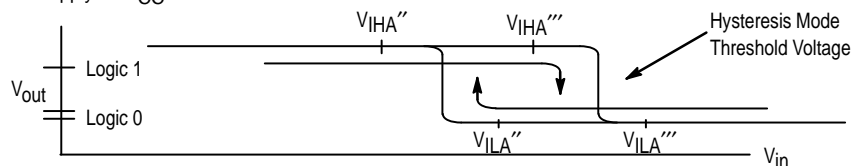

Figure 1. Hysteresis Mode Threshold Voltage
2. Output latched to logic high state prior to test. V_{IHA}' , V_{ILA}' are standard logic 1 and logic 0 MTTL threshold voltages. V_{IHA}'' , V_{ILA}'' , V_{IHA}''' and V_{ILA}''' are logic 1 and logic 0 threshold voltages in the hysteresis mode as shown in Figure 1 on page 3-2.
- Output latched to logic high state prior to test. V_{IHA'}, V_{ILA'} are standard logic 1 and logic 0 MTTL threshold voltages. V_{IHA''}, V_{ILA''}, V_{IHA'''} and V_{ILA'''} are logic 1 and logic 0 threshold voltages in the hysteresis mode as shown in Figure 1 on page 3-2.
- Output latched to logic high state prior to test. V_{IHA}', V_{ILA}' are standard logic 1 and logic 0 MTTL threshold voltages. V_{IHA}'', V_{ILA}'', V_{IHA}''' and V_{ILA}''' are logic 1 and logic 0 threshold voltages in the hysteresis mode as shown in Figure 1 on page 3-2.